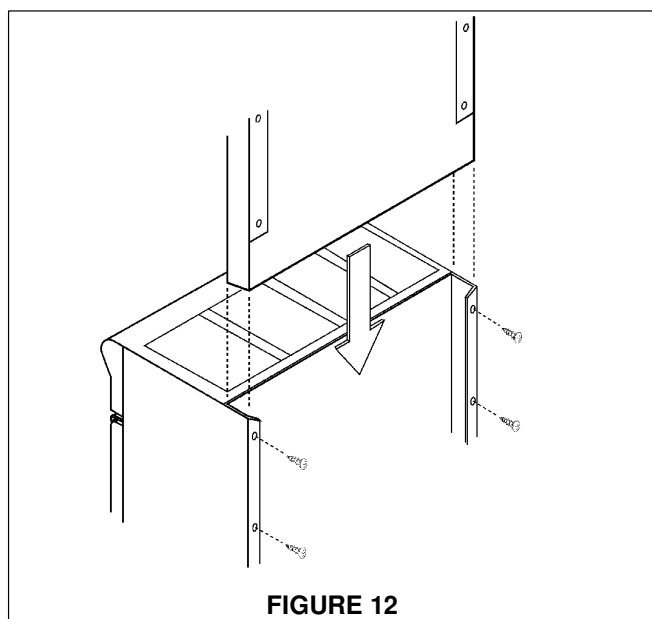

FIGURE 12
The backguard is inserted, as shown in Figure 12, into the guide channels on the back of the range. Secure the backguard with the (4) sheet metal screws provided.